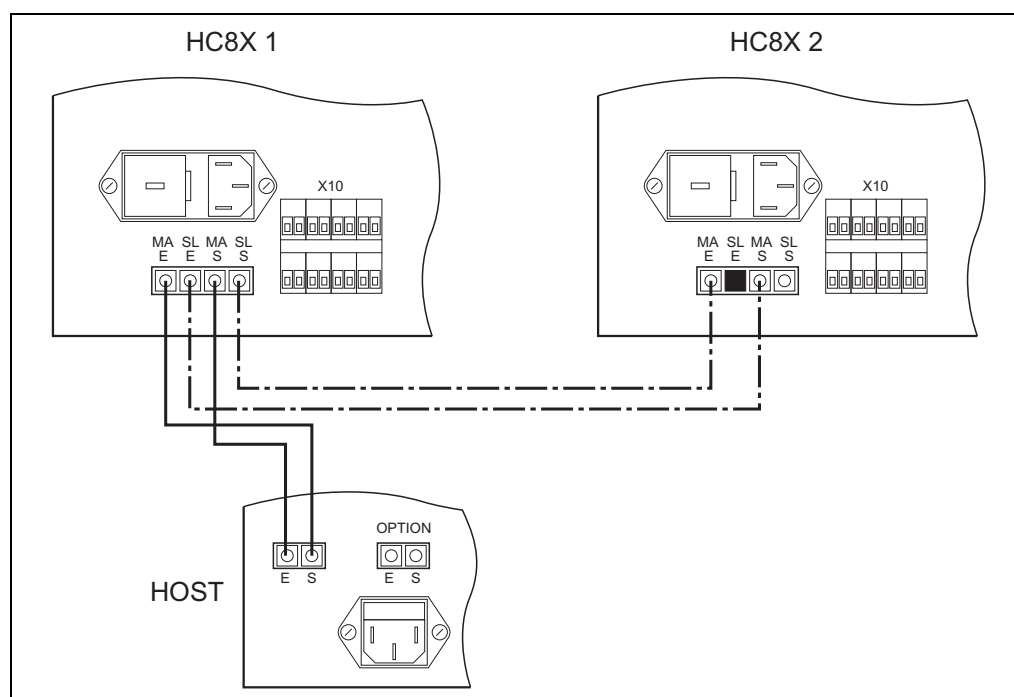

Fig. 3-2: HC8X Optical Fiber Connection
3. Close connection SL (E) of HC8X with a blank plug (see Fig. 3-2, HC8X 2).